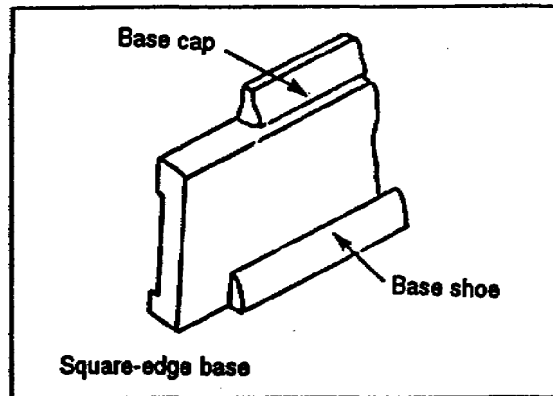

Figure 2-34. Two-piece baseboard
**2-15. Base Moldings.** The interior trim of a building should match or complement the design of the doors, the windows, and the building. Base molding is the trim between the finished wall and the floor. It is available in several widths and forms. Two-piece base consists of a baseboard topped with a small base cap (see Figure 2-34). The common size for this type baseboard is 1 by 4 inches or wider. One-piece baseboard varies in size from 1/2 by 3 inches to 1 by 4 inches and wider (see Figure 2-35). Although a wood member is desirable at the junction of the wall and carpeting to serve as a protective bumper, wood trim is sometimes eliminated entirely.